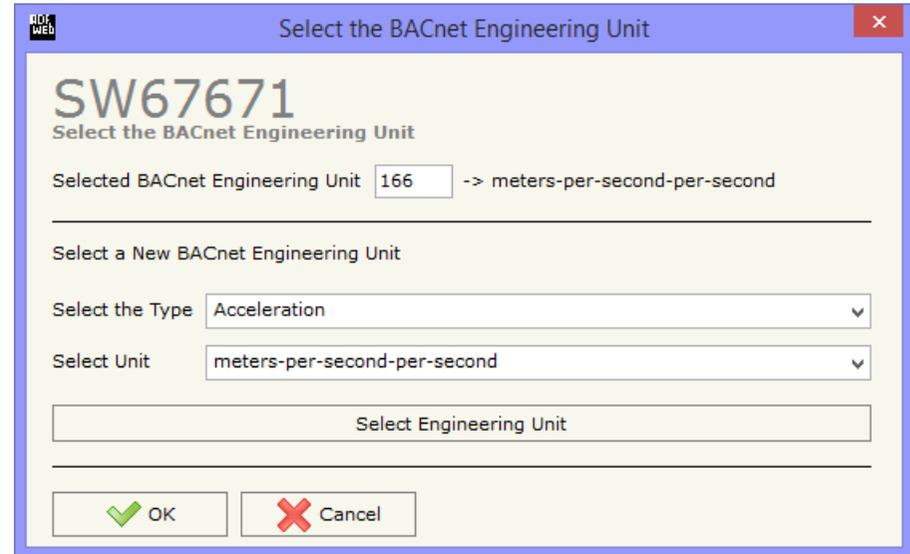

Figure 6: “Select the BACnet Engineering Unit” window
- In the field "Eng. Unit", with double click the window "Select the BACnet Engineering Unit" appears (Fig. 6);